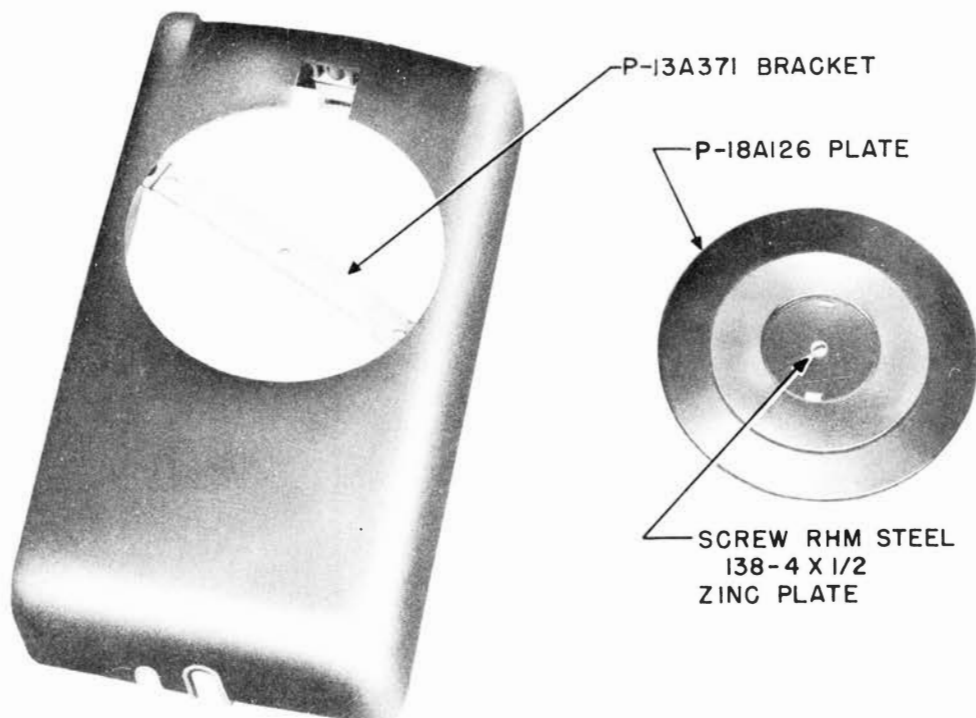

Fig. 28 — 554-Type Housing with 95B
4.05 Fig. 25 shows the assembly of the 95A apparatus blank in 500- and 501-type desk sets. The 95A apparatus blank can be used only on sets with 3-legged dial mountings. Fig. 26 and 27 show front and rear views of the 95B apparatus blank assembly in 500- and 501-type desk sets. Fig. 28 and 29 show assembly of the 95B apparatus blank in the 554- and 556-type sets. Note that bracket position is inverted when used on 554- and 556-type sets.